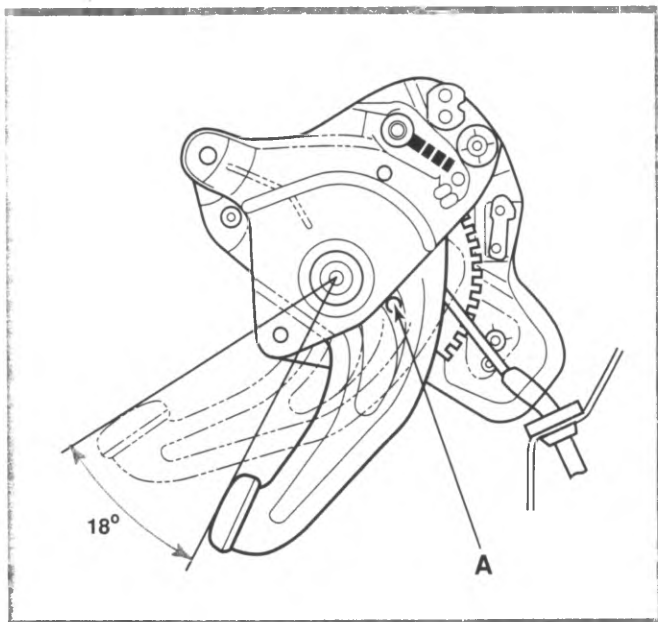
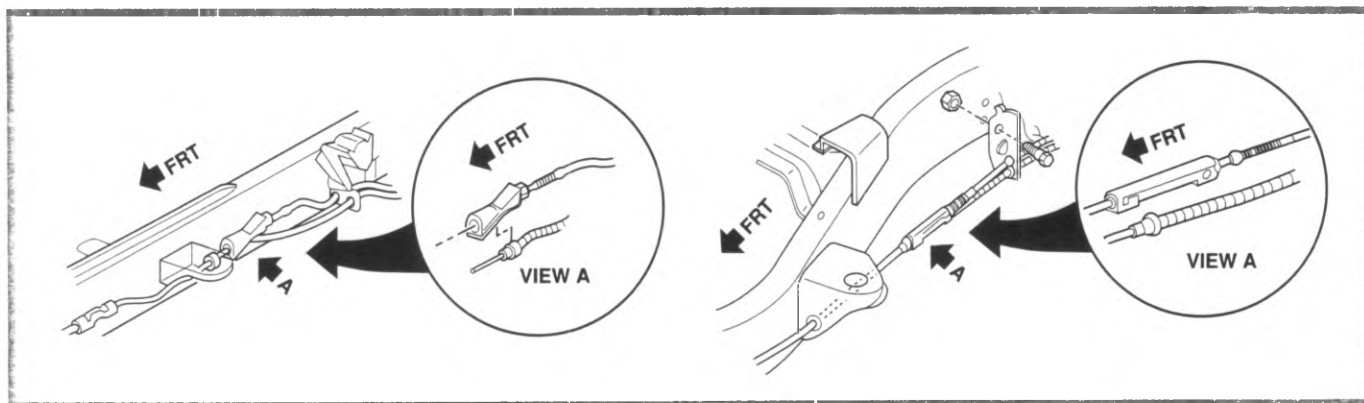

Figure 2-8, **Parking Brake Adjustment Setting**
Figure 2-9, **Rear Parking Brake Cable**
4. Push the parking brake pedal down 18 degrees to set it (figure 2-8) by:
- Inserting a 3 mm (0.125 in.) pin into the locating hole in the pedal assembly (A)
5. Turn the adjusting nut until the rear wheels rotate forward with moderate drag (figure 2-9).